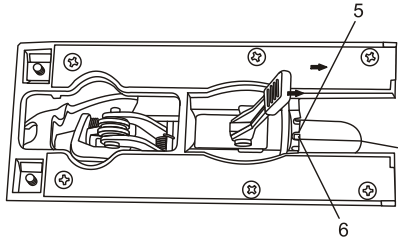

Fig. 6
4. Slide the base backward to engage the bevel angle slot (5) with the indexing pin (6) (Fig. 6)